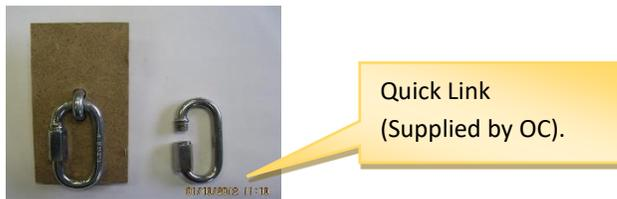

Figure 6: Heavyweight Loading Platform and Threaded Quick Link (1/4")
- Must have a metal U-bolt mounted at the center of the platform. The U-bolt must be large enough to allow a 1/4” threaded Quick Link, supplied by Okanagan College, to be easily attached (See Figure 6). DO NOT attach your own link.
Note: to facilitate connection of the heavyweight loading platform’s U-bolt to the loading device, the area immediately below the heavyweight loading platform must be unobstructed to allow for a 1/4” threaded Quick Link to be easily attached (on site, prior to loading the bridge) to the U-bolt (See Figure 6). The loading platform including its hardware (excluding the 1/4” threaded Quick Link) will be included in the overall weight of the bridge.